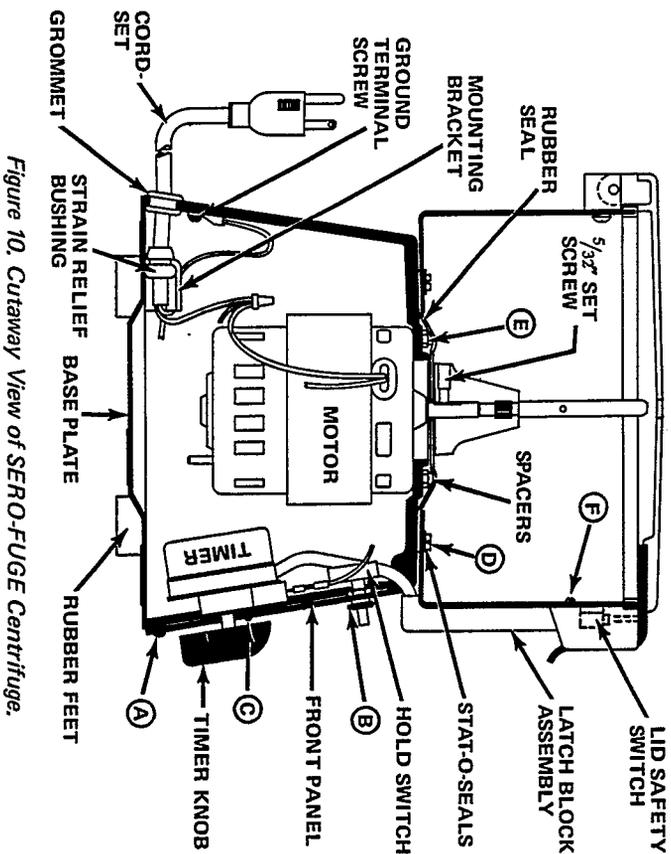
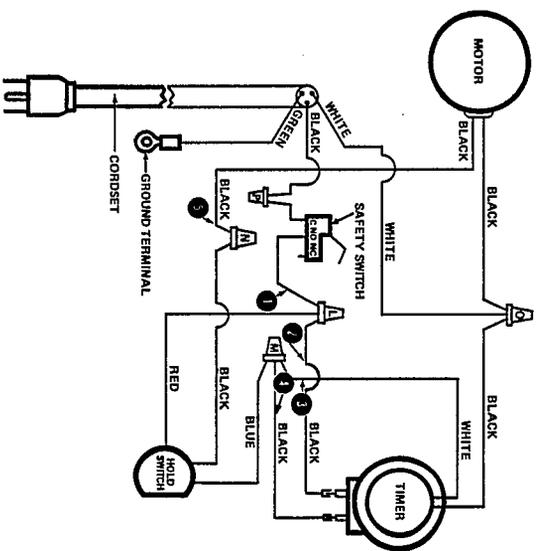

Figure 10. Cutaway View of SERO-FUGE Centrifuge.
Figure 11. SERO-FUGE Centrifuge Wiring Diagram.
1. Referring to Figure 10, turn the centrifuge over and remove the four rubber feet and base plate.
- (c) Referring to the Wiring Diagram in Figure 11, cut wire splice (L) that terminates the red Hold Switch wire; strip  $\frac{3}{8}$ -inch insulation from Safety
- (d) Switch wire (1) and Timer Switch wire (2).
- (f) Cut off the crimp wire splice (M) that terminates the blue Hold Switch lead; strip  $\frac{3}{8}$ -inch insulation from white Timer Motor wire (3) and the Timer Switch wire (4).
- (h) Remove and replace the crimp (N) connecting the black Hold Switch wire to the black Motor wire (5), using a wire splice or by covering with electrical tape.
- (a) Referring to Figure 10, remove the Timer Knob by unscrewing the recessed set screw and two Timer mounting screws "C".
- (c) Referring to Figure 11, remove the two Timer Switch wires from their terminals on the old timer and transfer to terminals of new Timer.
- (d) Cut off the crimp wire nut (M) that terminates the black Timer Motor wire; strip  $\frac{3}{8}$ -inch insulation from the black Timer Switch wire (4) and the blue Hold Switch wire. Crimp these two wires to the new white Timer Motor wire, using a wire splice or by covering with electrical tape.
2. Referring to Figure 10, remove the six screws (D) and Stat-O-Seals holding the guard assembly, and lift guard assembly aside. NOTE: The Safety Switch wires should remain connected.
3. Remove the Drive Spindle by loosening the set screw. Lift off rubber seal and rubber spacers over the four nuts (E); remove nuts.
5. Referring to Figure 11, cut off crimp wire splice (N) joining the black Motor wire to the black Hold Switch wire. Strip  $\frac{3}{8}$ -inch insulation from the Hold Switch wire and crimp to the new Motor wire, using a wire splice or by covering with electrical tape.
6. Cut off the crimp wire splice (O) joining the white Cordset wire, Motor wire and Timer Motor wire. Strip  $\frac{3}{8}$ -inch insulation from wires and crimp to new Motor wire, using a wire splice or by covering with electrical tape.
7. Turn centrifuge over and replace the four nuts (E) holding the motor. Replace the spacers, rubber seal, guard bowl, Stat-O-Seals, guard bowl screws, and spindle. NOTE: Align the spindle set screw with the shaft-flat before tightening. Reassemble guard.
2. Referring to Figure 11, cut the crimp wire connectors (O) and (P) terminating the black and white Cordset wires and remove the terminal screw holding the green grounding wire. Pull the cord out of the centrifuge.
3. Slip a new Rubber Grommet on the new line cord. Referring to Figure 10, press the Strain Relief Bushing in the slot of the Mounting Bracket.
1. Referring to Figure 10, remove the four screws (F) which secure the Latch Block Assembly to the guard bowl.
3. Referring to Figure 11, cut old Safety Switch leads at wire splices (L) and (P). Remove old Safety Switch.